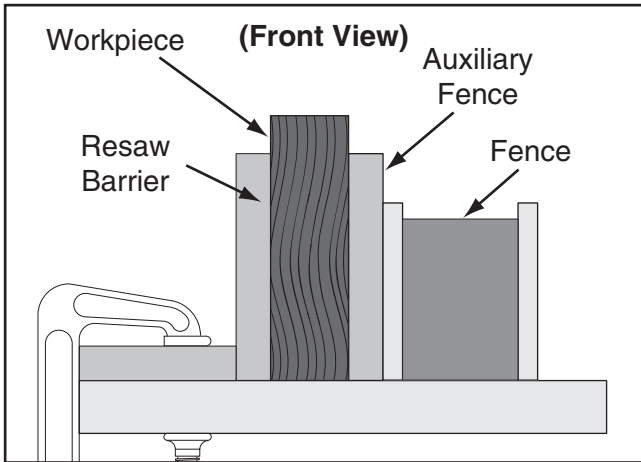

Figure 61. Ideal resaw workpiece setup.
5. Place the workpiece against the auxiliary fence and slide the resaw barrier against the workpiece, as shown in **Figure 61**. Now clamp the resaw barrier to the top of the table saw at both ends.